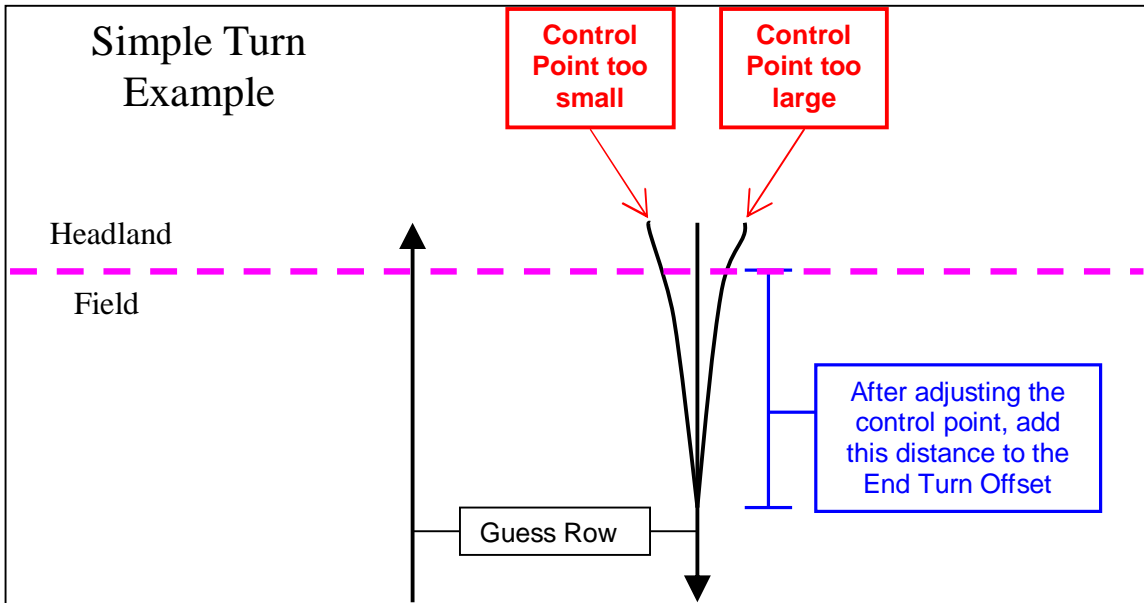

Figure 13
- For “simple” turns, increase the Control Point to widen guess rows and decrease the Control Point to narrow them (Figure 13)
- Additionally, the End Turn Offset can be adjusted to improve guess row performance (as shown in Figures 13 & 14)